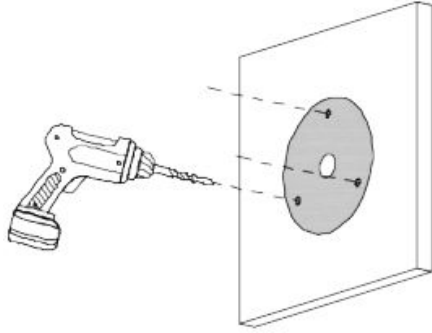

Figure 2-1
**Step 1** Use the supplied position map and adhere it to the mounting surface. Drill the appropriate pilot holes for the expansion screws and cable exit if the cable will go through the mounting surface. See Figure 2-1.